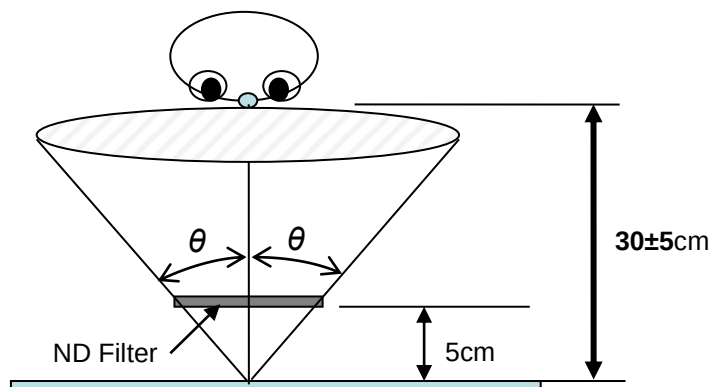

Fig. 1
5.3 Distance: 30±5 cm in front of LCD unit with a viewing angle of $\theta=10^\circ$.(refer to figure 1)
ND filter use method: The inspection method of ND Filter - holding ND filter in front of the panel around 5 cm and examine the panel from **30±5** cm in the front view for **3** seconds. (Fig. 1)